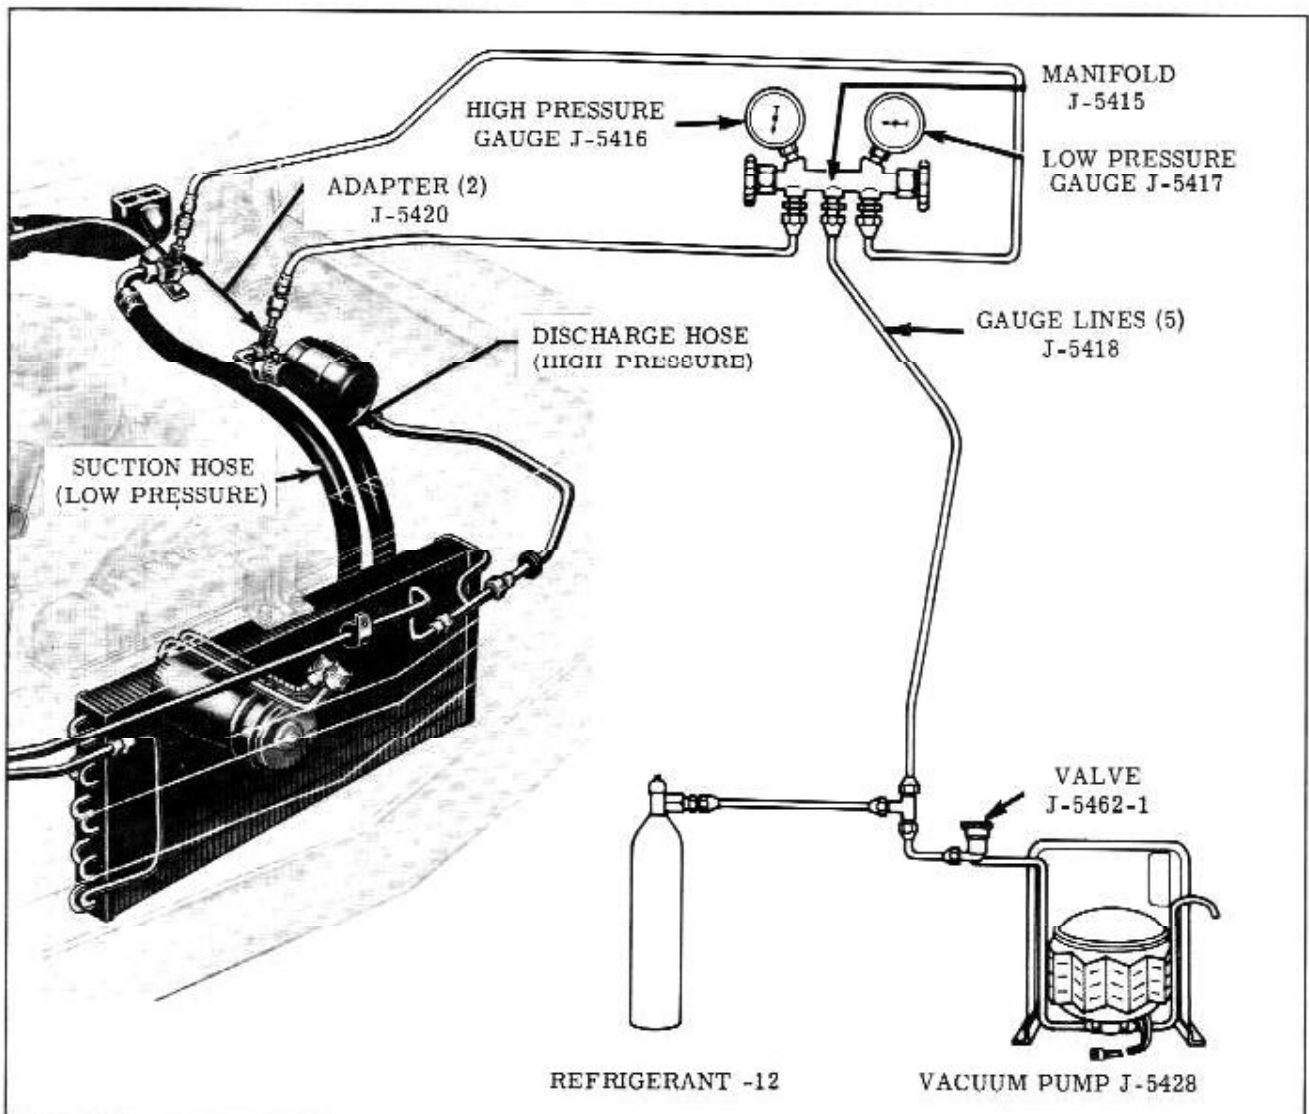

Fig. 14-30 Gauge Connections
1. With the engine stopped, remove protective caps from compressor high and low pressure hand shut-off valves. (Fig. 14-30)